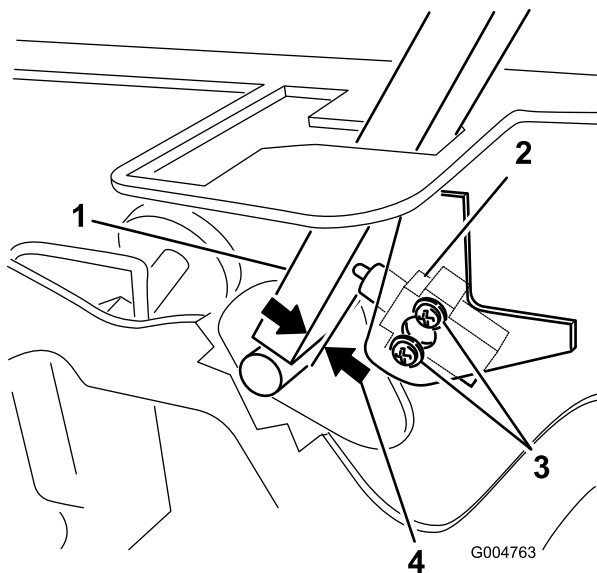

Figure 54
3. Loosen the 2 screws securing the interlock switch (Figure 54).
4. Holding the control lever against the frame, move the switch toward the lever until the distance between the lever and switch body is 0.4 to 1 mm (0.015 to 0.045 inch) as shown in Figure 54.